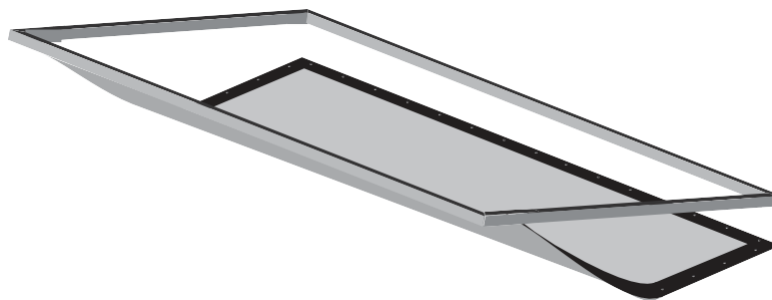

Figure 15: Attaching Remaining Snaps
6. Lift the frame to a vertical position to finish attaching the sides and bottom row of the snaps (see Figure 15).